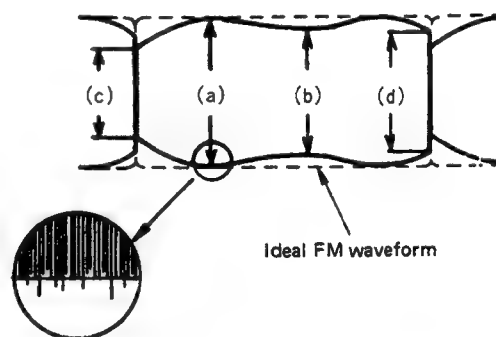

Fig. 2-26 FM waveform (maximum output)
5. Confirm that depressions at the drum intake (c) and drum exit (d) exceed 3.4 scale divisions (Fig. 2-26).